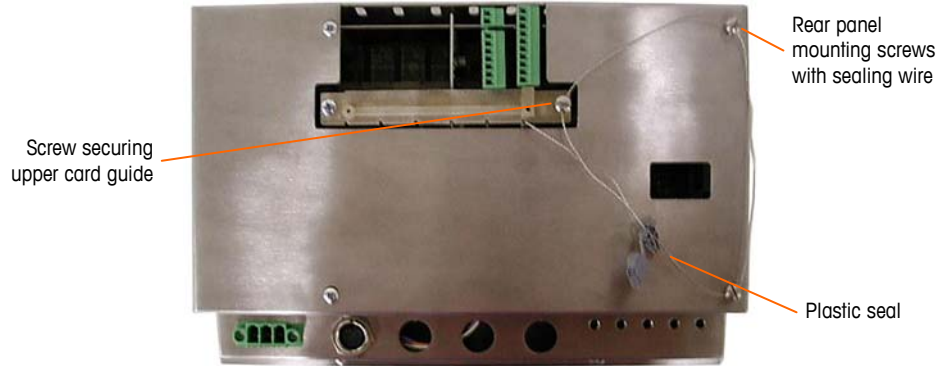

Figure A-95: 3-Point Sealing, Panel Enclosure Rear Cover
4. Finally, the back panel of the enclosure is sealed. Three sealing screws are indicated in Figure A-95 – two secure the panel in place on its stand-offs and one secures one end of the upper card guide.